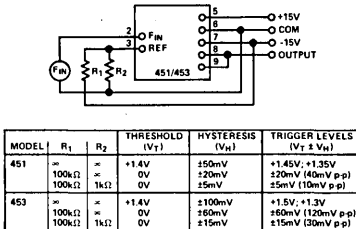

Figure 5. Decreasing Threshold Below +1.4V to Increase Triggering Sensitivity for Low Level Input Signals
**Decreasing Threshold for Signals Less Than +1.4V:** A resistor connected from the REF terminal to the negative power supply,  $-V_S$ , will increase the input triggering sensitivity for operation with signals below  $+1.4\text{V}_{PK}$ . As shown in Figure 5, a minimum threshold of zero volts is obtained with a 100k $\Omega$  resistor. The triggering level,  $V_T \pm V_H$ , will be established by the resulting hysteresis levels. With a 100k $\Omega$  to  $-15\text{V}$ , model 451 hysteresis will be  $\pm 50\text{mV}$  and model 453 hysteresis will be  $\pm 60\text{mV}$ .